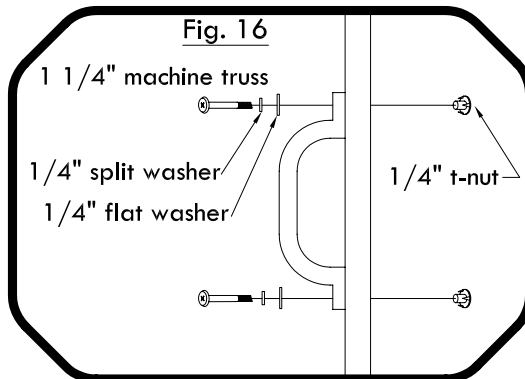

Fig. 16
Step 5: Attach the Hand Grips to the drilled Wall Slats with 1 1/4" machine truss screw with 1/4" split washer and 1/4" flat washer through the grip and slat and into a 1/4" t-nut on the back. You must hammer the t-nuts into the drilled holes before inserting the machine truss screw. (see Fig. 16)